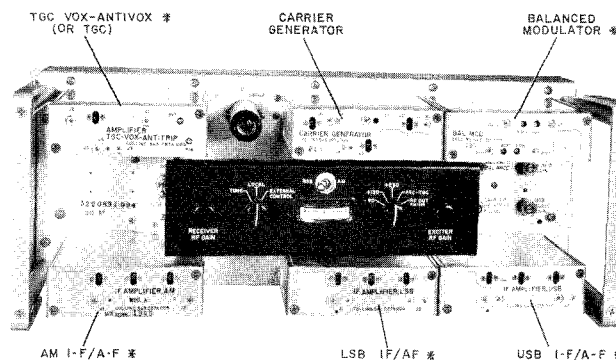

Figure 5. Six modules are included in the 786F-1, five are optional\*
The 786F-1 contains several plug-in modules. Various combinations of modules can be used to obtain the desired mode of operation. The modules of the 786F-1, illustrated in figure 5, are as follows: (1) Carrier Generator; (2) Balanced Modulator (optional); (3) Transmit Gain Control (optional) or TGC/VOX-Antivox (optional); (4) Upper Sideband, I-F/A-F (optional); (5) Lower Sideband, I-F/A-F (optional); and (6) AM, I-F/A-F (optional).